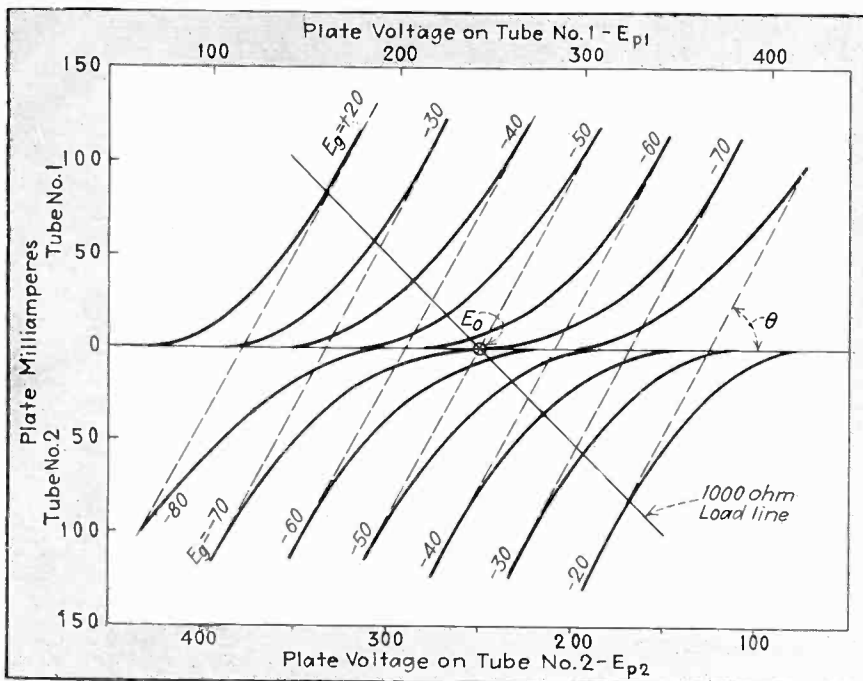
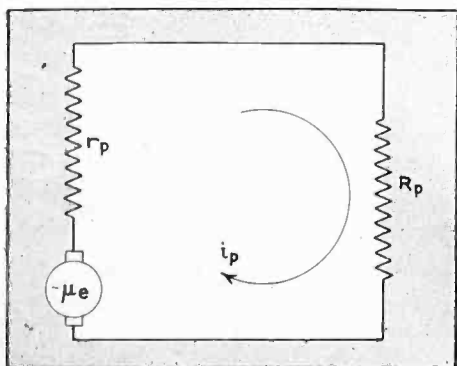

Fig. 3. Double set of plate characteristics for 2A3 tubes
Fig. 4. Equivalent circuit of push-pull amplifier
Fig. 3—The television modulating signal, showing video signal of the odd-numbered lines, the blanking pedestal, and the line- and frame-synchronizing impulses. The frame sync impulses are of the serrated type
In Fig. 3 the region between the indicated lines is devoted to the video signal. The minimum amplitude of the video signal corresponds
Fig. 4—The elements of the typical television receiver, both video and audio. The average illumination of the picture is controlled by a bias value obtained from the second detector
tal of the same amplitude as the line synchronizing impulses but of considerably different shape. These are shown in Fig. 3-B.
The television signals shown in Figs. 3-A and 3-B are ideal signals produced by a perfect camera tube and transmitter without selective attenuation. In actual practice the attainment of this ideal case is practically impossible. One type of distortion has already been mentioned. It is the shading problem which produces an uneven illumination of the field of the reproduced image due to the fact that the Iconoscope produces a video signal from each line whose d-c component is slowly varying. As the camera tube beam scans each line the net charge on successive elements may increase progressively due to the effect of secondary emission. The increase in the video signal upwards, from the beginning to the end of the line, means an increase in the overall brightness corresponding to the increase in amplitude. As a result the beginning of the line is absolutely dark and the end of the line over-bright. Corrections of this effect may be made by altering the lighting so that a major portion of the light is directed toward the beginning of each line. However, this is at best a compromise. To secure a definite correction of this distortion it is necessary to add a decreasing d-c component to the video signal during each scanned line which exactly compensates for the increase in the d-c component in the scanning mechanism itself. This compensating voltage provides a net signal similar to the ideal case previously considered. The introduction of the
The use of static  $E_p - I_p$  curves for obtaining the power output and distortion of a single tube operating in Class A is quite familiar. As indicated by Eqs. (1) and (2) the calculation of push-pull performance must involve the use of plate current difference characteristics,  $(I_1 - I_2)$ . These characteristics can be obtained by a convenient method due to B. J. Thompson.1 This is illustrated in Fig. 3 for two type 2A3's operating with 250 volts on the plate and 50 volts grid bias. Essentially these curves were produced by constructing two individual static characteristic families, one inverted with respect to the other, with a common zero-signal plate voltage,  $E_o$ , then subtracting corresponding static characteristics point by point. The resultant dotted lines trace out the plate current difference character-
istics,  $(I_1 - I_2)$ , flowing in the output transformer for different grid excitation values. The dotted lines representing the equivalent static family of  $E_p - I_p$  curves for the two tubes in push-pull can be utilized for predicting their combined effect just as the individual static  $E_p - I_p$  characteristics for a single tube in Class A can be used for calculating its output and distortion for a given load. Similarly, the equivalent plate resistance,  $r_p$ , of the push-pull tubes is equal to the reciprocal of the slope of the static difference characteristics or to  $\cot \theta$  in Fig. 3. Thus, the plate-generator circuit for push-pull tubes evolves from the above considerations as shown in Fig. 4.
tack is that the evaluation of  $r_p$  must be obtained by the cumbersome construction of two sets of curves. Examination of the effect of changing either the grid bias or plate voltage further increases the task, since new plots must be made for each different static voltage condition, Fig. 3. A simplifying method which removes the necessity of plotting curves and utilizes only the plate characteristic curves sent out by the manufacturer will be shown.
Notice from Fig. 3 that the resultant characteristics are all very nearly parallel straight lines; hence the effective plate resistance,  $r_p$ , can be closely approximated by constructing only one pair inverted curves. Further simplicity results by using the zero-signal characteristics, ( $E_g = -50$ ,  $E_p = 250$ , in Fig. 3). This difference characteristic passes through the common plate voltage,  $E_o$ , and becomes tangent to the static curve of tube No. 1 when
Comparison of this result with that obtained by taking point by point differences, Fig. 3, shows an exact agreement. This newly developed method was used to investigate the conditions of push-pull circuit operation for several values of grid and plate operating voltages, the results being given in the following table:
Electric J-12 single-make relay. The self-bias resistor in the cathode lead of the 43 is adjusted until the plate current of the tube is 25 ma. with the grid shorted to ground. These connections are shown in Fig. 3.
The heart of the circuit, from the application standpoint, is the arrangement of the push-button and relay-contactor points, shown in Fig. 4. The contacts of the J-12 relay are permanently connected in series with the control coil of the main contactor (a Struthers-Dunn type CBTX1P, 6-amp.—non-inductive load—contacts, two make and two break, with a common armature contact). These latter contacts control the output power of the device, lock-up the push-button control, and initiate the condenser-charging cycle, simultaneously.
*Fig. 3—(left) The VT voltmeter, controlled by the circuit of Fig. 2-D. Fig. 4 (right) the push-button, relay, and contactor interconnections which control the external load*
This requirement cannot be met by an amplifier tube connected in the conventional manner (indicated in Fig. 4) with a cathode-bias resistor and condenser, a decoupling resistor and condenser, and a filtered plate supply. The reason is that the condensers in the circuit introduce phase distortion. As an illus-